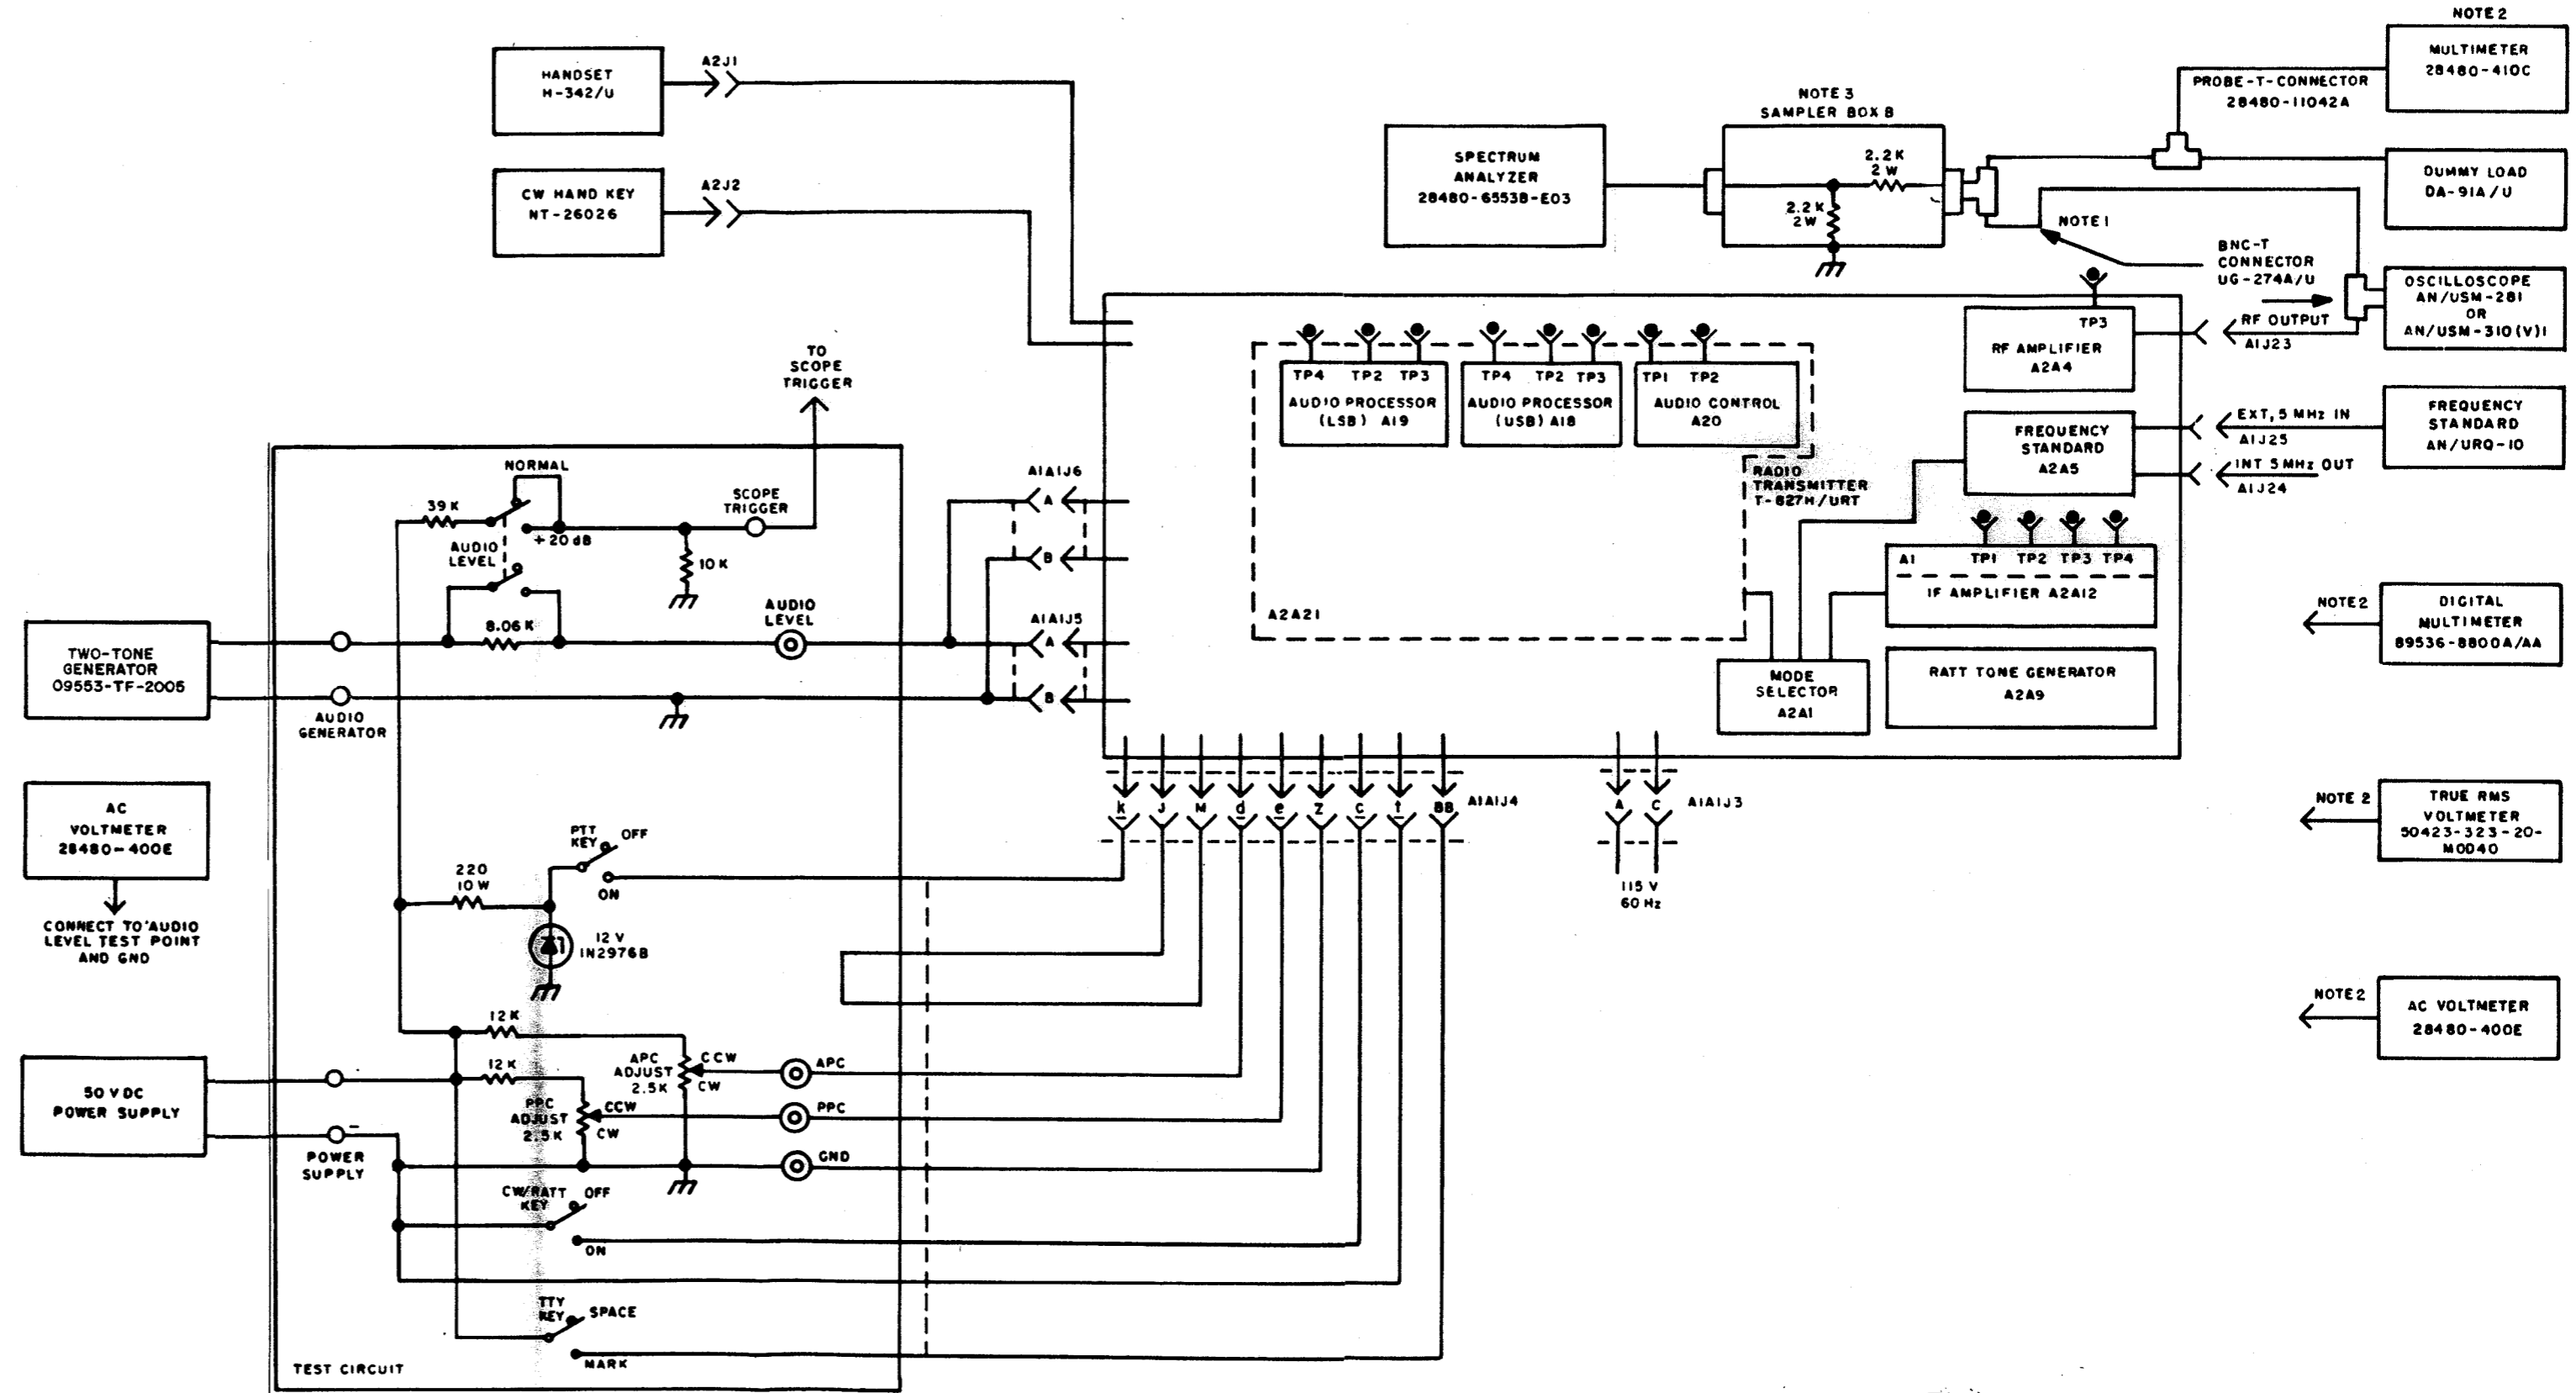

Figure 6-1. Radio Transmitter T-827H/URT, Overall Adjustment and Alignment Bench Test Setup
Refer to Figure 6-1 for test equipment connections.
NOTES FOR FIGURE 6-1
- B. THE TEST STEPS OF TABLE 6-1 DETAIL DEPOT PROCEDURES FOR TESTING THE T-827H/URT IN A FREE STANDING CONFIGURATION. THE TEST CIRCUIT OF FIGURE 6-1 PROVIDES SWITCHING AND CONTROLS TO SIMULATE THE SHIPBOARD COMMUNICATION SYSTEM.